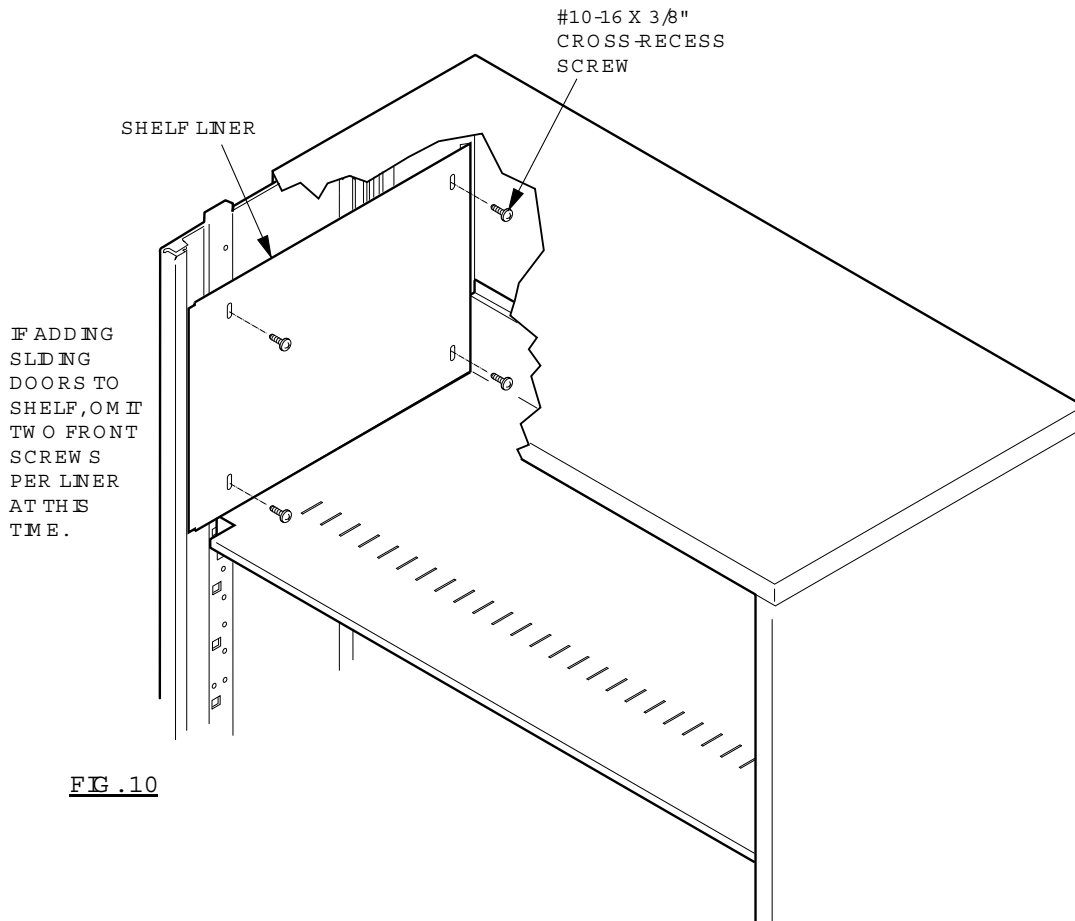

FIG. 10
4. Remove binder storage shelf liner(s) by removing #10-16 x 3/8" cross recess screws, (Units with doors have two (2) screws per side, located towards back of liner. Units without doors have four (4) screws per side). Lift liner out of cabinet. Repeat on opposite side of cabinet. Store liners for possible future use (Fig. 10).
5. Remove four (4) #10-16 x 3/8" cross-recess screws which attach shelf to cabinet. Lift one end of shelf, (tipping shelf inside cabinet), and remove.
2. Install liners in cabinet using two (2) #10-16 x 3/8" for units with doors (utilize holes located toward back of liners), and (4) #20-16 x 3/8" cross recess screws for units without doors (Fig. 10).